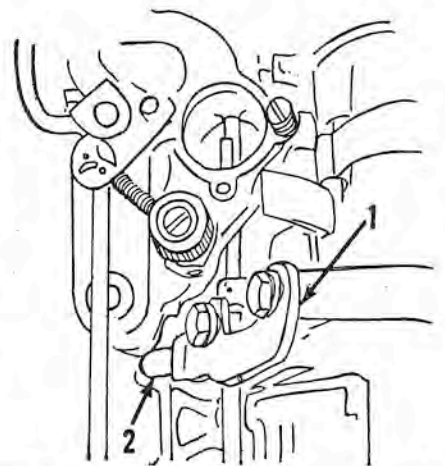

Fig. M84—Reverse throttle pickup adjustment used on older models.
Synchronize the reverse throttle mechanism with motor in operation as follows: Loosen the screws which retain the reverse throttle lever (1—Fig. M84) to the sector gear and move the lever as far as possible away from throttle reverse pickup (2). Advance the distributor in the "Reverse" direction until engine speed is 1000 rpm. Move the lever (1) until it just touches reverse pickup (2) and tighten the screws. Limit the maximum reverse speed to 4000 rpm or less by moving the lever stop on the lower cowl.